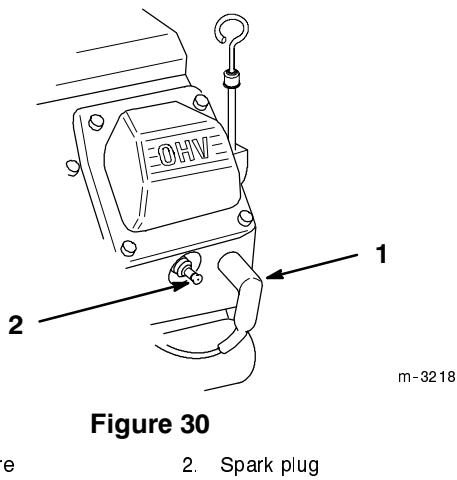

Figure 30
2. Pull the wire(s) off the spark plug(s) (Fig. 30). Now clean around the spark plug(s) to prevent dirt from falling into the engine and potentially causing damage.
3. Push the wire(s) onto the spark plug(s) (Fig. 30).